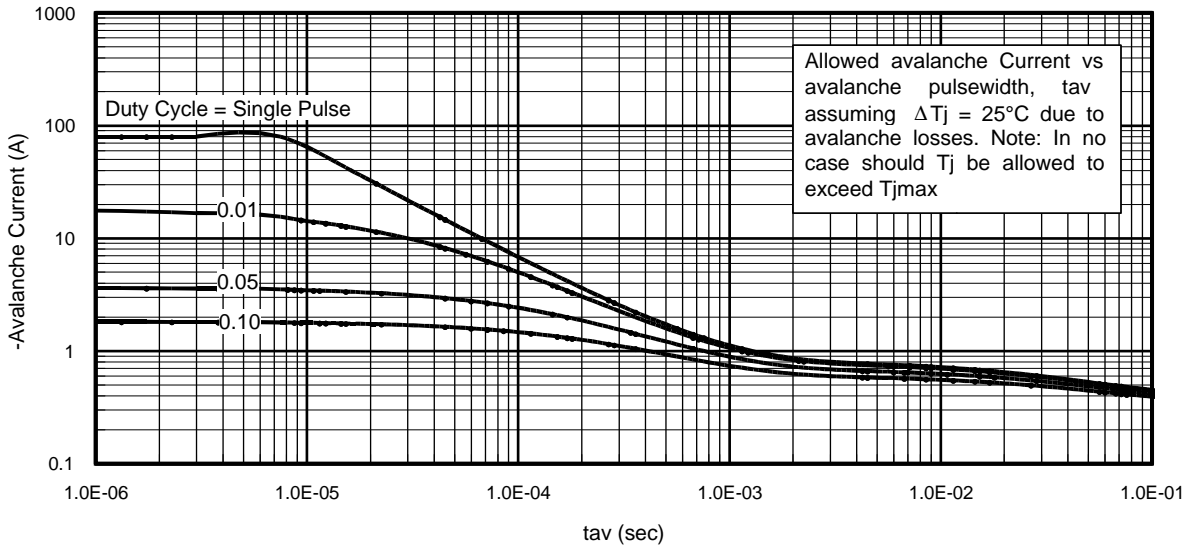

Fig 14. Typical Avalanche Current Vs. Pulsewidth
Notes on Repetitive Avalanche Curves , Figures 14, 15:
7. ΔT = Allowable rise in junction temperature, not to exceed T_{jmax} (assumed as 25°C in Figure 14, 15).
- ① Repetitive rating; pulse width limited by max. junction temperature.
- ② Starting $T_J = 25^\circ\text{C}$, $L = 3.89\text{mH}$, $R_G = 25\Omega$, $I_{AS} = -10\text{A}$.
- ③ Pulse width $\leq 400\mu\text{s}$; duty cycle $\leq 2\%$.
- ④ R_θ is measured at T_J of approximately 90°C .
- ⑤ Limited by $T_{j\text{max}}$. See Figs. 14, 15, 17a, 17b for repetitive avalanche information